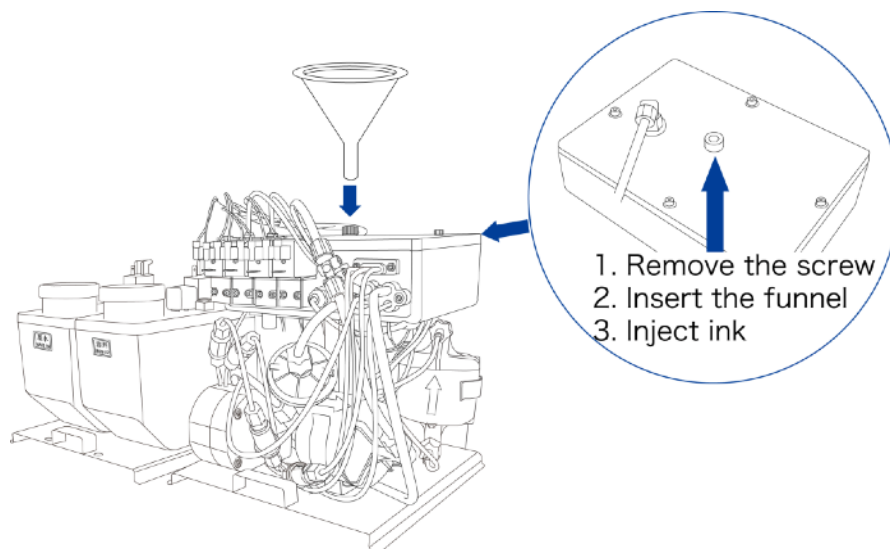

Figure2-1. How to inject ink into the mixer tank.
2. Inject ink into the mixer tank according to the following figure(Figure 2-1).